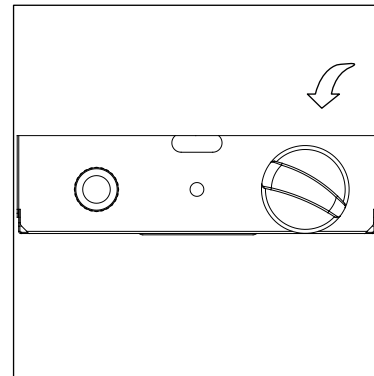

Figure 5
8. Push in and turn the control knob to the "HIGH", then release control knob. If you want a lower temperature, push in the control knob and turn counterclockwise to the "LOW" (*Figure 5*).